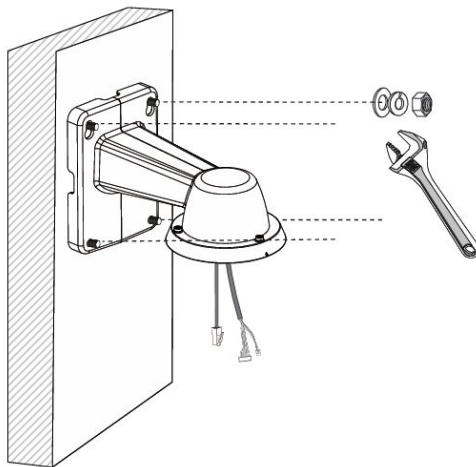

Figure 1-2
Step 2 Route cables through wall arm and install mount. See Figure 1-2